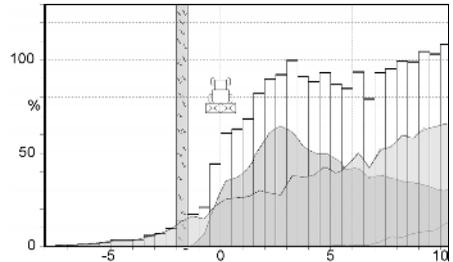
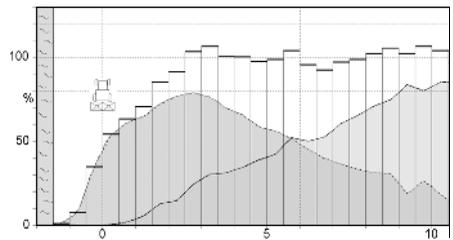

Fig. 13
Fig. 14
- intend to create tramlines in bout widths of 10 or 12 m (Fig. 13 and Fig. 14).
The OM 10-16 has got a spread width of approx. 36 m (see Fig. 14). This way large overlapping zones result for 15 and 16 m which are of advantage for an even fertiliser application. At 10 and 12 m working width this large spreading width may be disadvantageous, especially when using the boundary spread deflector.
Border spreading (with border spread deflector) at a spacing of 1.5 m with 16 m tramlines is recommended as no fertiliser is thrown beyond the field's border. If, however, one travels with 12 m or 10 m bout width, the OM 10-16 with the same vane position (with some kinds of fertiliser, e.g. CAN, it is possible to achieve with the same vane position an optimum lateral distribution at working widths of 10 – 16 m) throw considerable amounts of fertiliser beyond the border (approx. 4.5 or 6.5 m) when driving back (see Fig. 13)
ranges by using OM 10-12 (see Fig. 13). When operating with the border spreading disc TS 5-9 with 5 m distance towards the border the OM 10-16 also throws approx. 3 m beyond the field's border, so that also here the use of OM10-12 will be necessary.